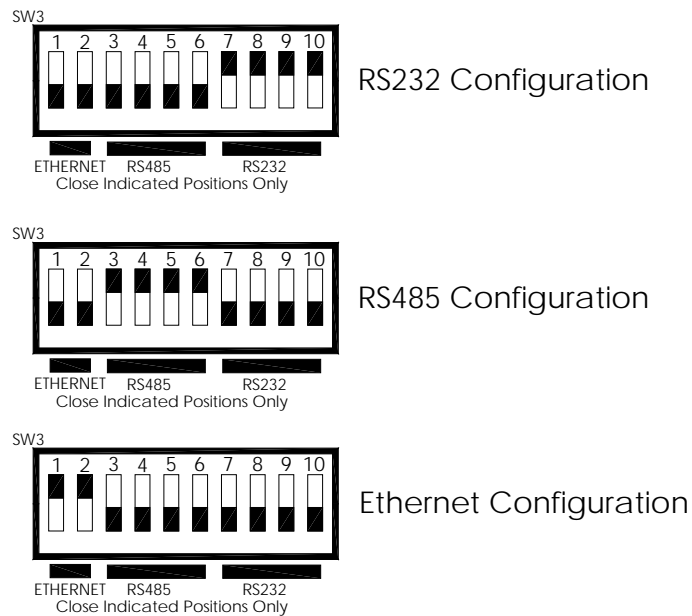

Figure 8-1: COM Configuration Jumper Settings (SW3)
4. Turn ON the switches specified for the desired COM configuration (See Figure 8-1.) All other switches on SW3 should be OFF.